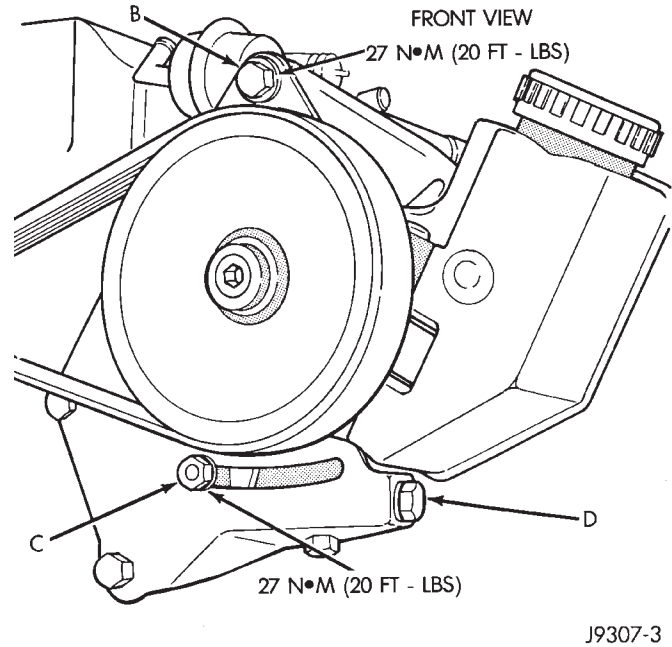

Fig. 6 P.S. Pump Front Mounting Bolt/Locknut—Typical
(b) Loosen upper pump pivot bolt B and lower lock nut C (Figs. 6 or 7).
(8) Remove locknut C and belt adjustment bolt D (Figs. 6 or 7).
(9) Remove bolt B (Fig. 6). Position power steering pump to the side. Hold pump in position with wire. Do not disconnect hydraulic lines from pump.
(8) Position power steering pump to mounting bracket. Install pivot bolt B (Fig. 6) finger tight. Install locknut C and adjustment bolt D (Figs. 6 or 7) finger tight.
(9) Install two adjustment bolts A (Fig. 6) finger tight.
(10) Install idler pulley.
- (14) Tighten pivot bolt B (Fig. 6) to 27 N·m (20 ft. lbs.) torque.
- (15) Tighten locknut C (Fig. 6) to 27 N·m (20 ft. lbs.) torque.
- (16) After the power steering pump has been tightened, recheck belt tension.
- (17) Fill cooling system with coolant and check for leaks. Refer to Refilling Cooling System in this group.
- (18) Connect battery cable to battery.
- (19) Start and warm the engine. Check for leaks.